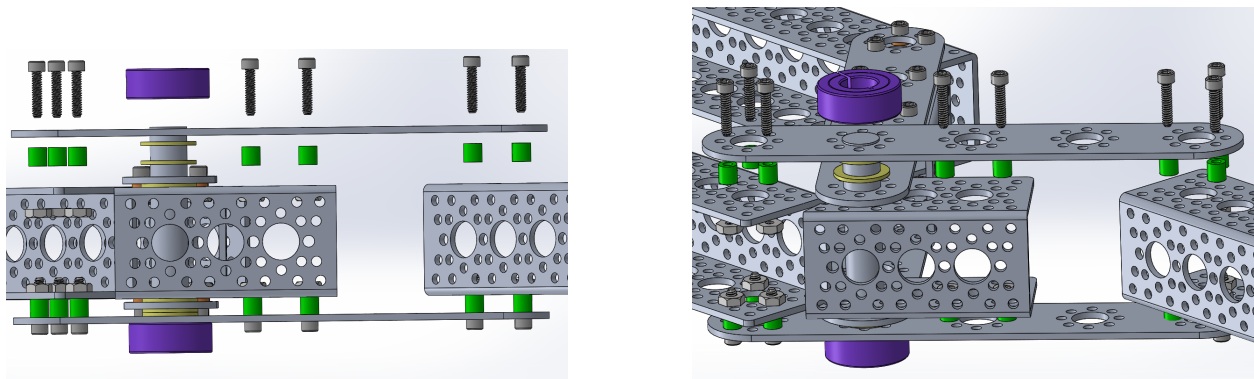

Figure 8: Other edge of Rocker-Bogie joint
6. **Other edge of Rocker-Bogie Joint Cont:** Using washers **W1**, collar clamp **S22**, spacers **T1**, and screws **B10** attach pattern F bracket to the final connecting channels as shown in Figure 8.